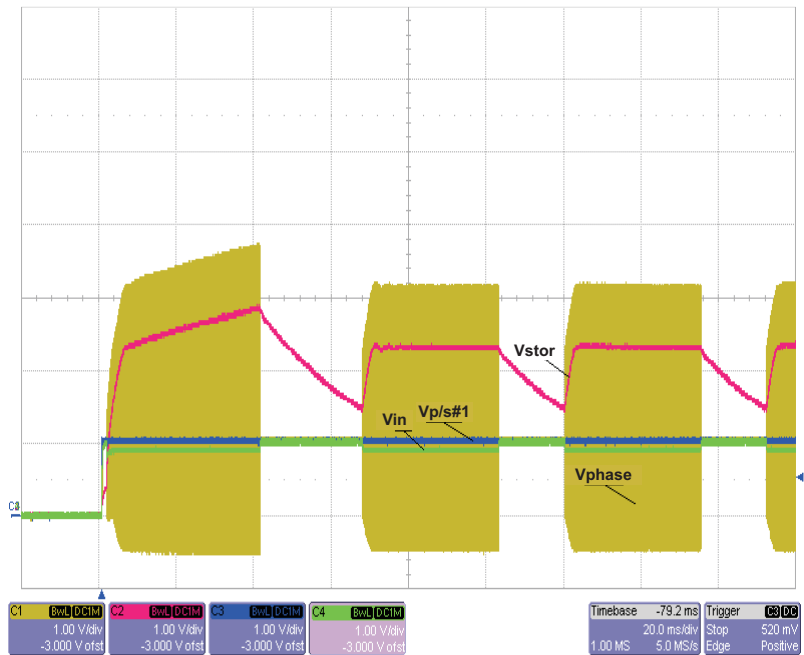

Figure 3. Startup with Battery Less Than UV
2. Set PS#1 to 1VDC and hot plug to input with  $20\Omega$  series resistor, see Figure 3.